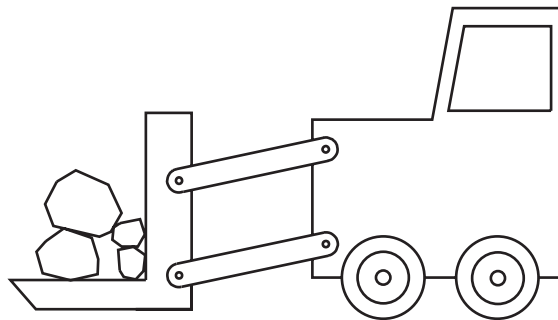

Fig. 5.1
- 5 Fig. 5.1 shows a linkage used on a front loader truck.
- (a) Name the type of linkage shown in Fig. 5.1.